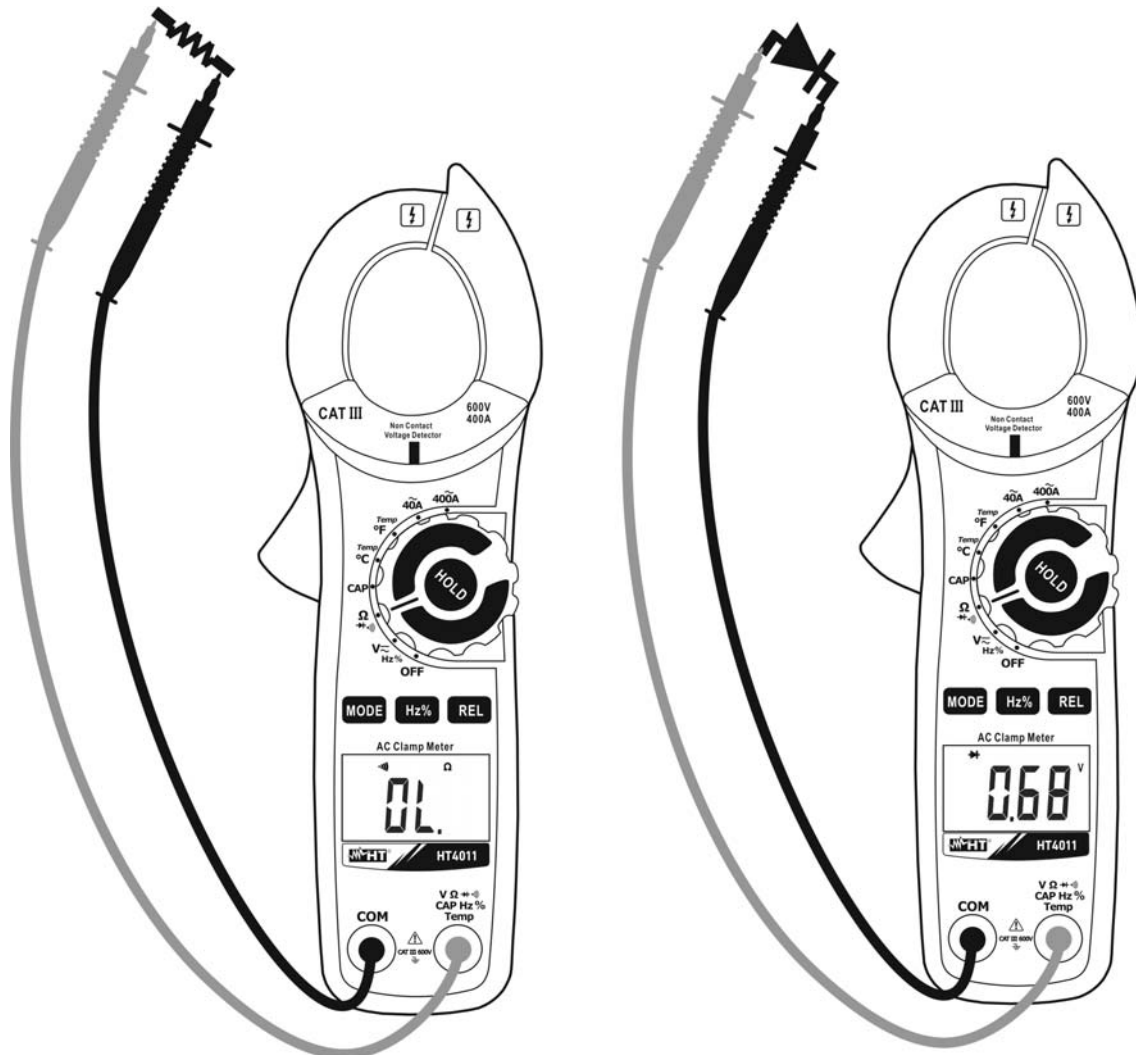

Fig. 7: Use of the clamp for continuity test and diode test
3. Insert the red cable into input terminal **VΩ $\rightarrow \rightarrow \rightarrow$ CAPHz%Temp** and the black cable into input terminal **COM** and carry out the continuity test of the object to be measured (see Fig. 7– left side). An buzzer sounds when the measured value of resistance is lower than  $30\Omega$
5. Connect the red lead to the anode of the diode and the black lead to the cathode in case direct polarization measurement is carried out (see Fig. 7 – right side). Invert the position of the leads in case reverse polarization measurement is carried out.